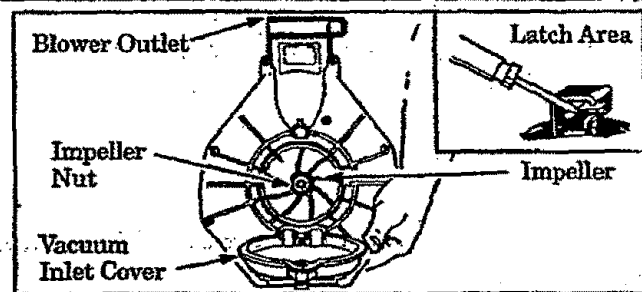

Figure 14
2. Set unit, blower outlet up, on a flat surface. Figure 14. Open the vacuum inlet cover as follows:
- a. Insert a screwdriver into the latch opening. Figure 14(inset).
3. Remove the impeller nut and washers while holding the impeller. Figure 14.